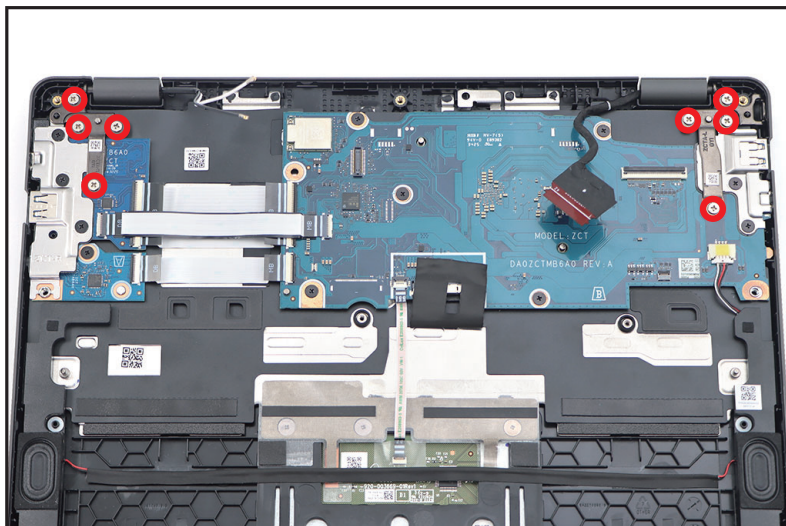

Figure 1-24. LCD Module Removal
3. Remove eight (8) screws securing the LCD hinges (Figure 1-24).